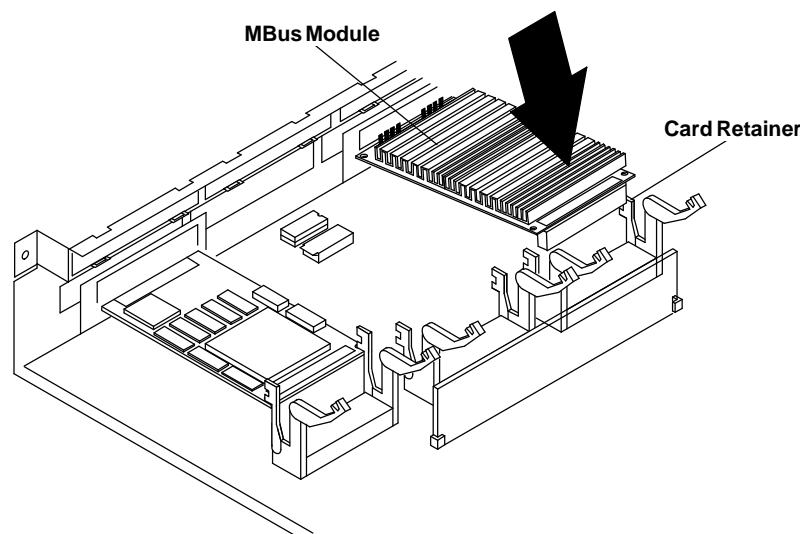

Figure 4-7. Installing the MBus Module
2. Make sure the card retainers for the module are pushed back. Refer to Figure 4-7.
The connector on the module should be facing MBus slot 0, the lower slot. Refer to Figure 4-7.
5. Push the module connector down into the socket as shown in Figure 4-7.